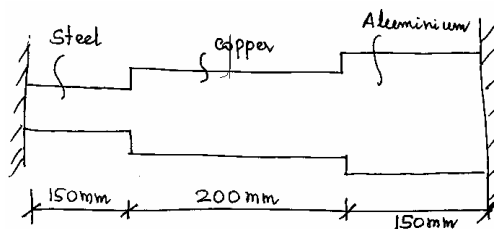

Fig.Q.2(c)
- c. The bar shown in Fig.Q.2(c) is composed of three segments. The bar is held between rigid supports. Find stresses developed in each segment when temperature of the system is raised by  $55^\circ\text{C}$ . (08 Marks)